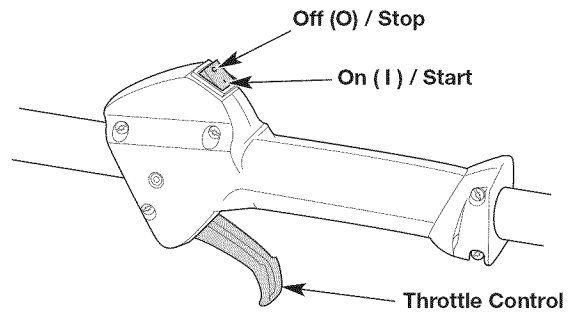
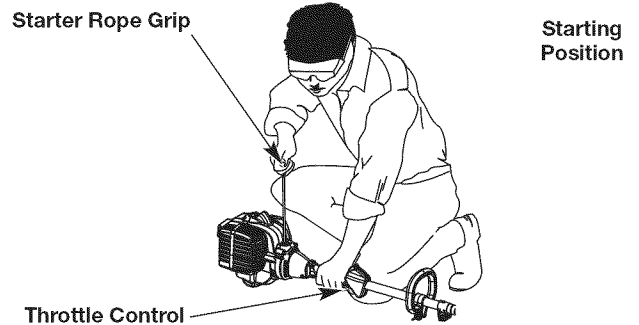

Fig. 9
Fig. 11
WARNING: Avoid accidentally starting the unit. To avoid serious injury, the operator and the unit must be in a stable position when pulling the starter rope (Fig. 11).
NOTE: There is no need to turn the unit on. The On/Off switch is in the ON (I) position at all times (Fig. 9).
4. Crouch in the starting position (Fig. 11).
5. **DO NOT** squeeze the throttle control (Fig. 9). Pull the starter rope with a controlled and steady motion until the unit starts (Fig. 11).
2. Press and hold the On/Off switch in the OFF (O) position until the engine comes to a complete stop (Fig. 9).
6. **DO NOT** squeeze the throttle control (Fig. 9). Run the Speed Start™ accessory in intervals no longer than 2 seconds each until the unit starts.